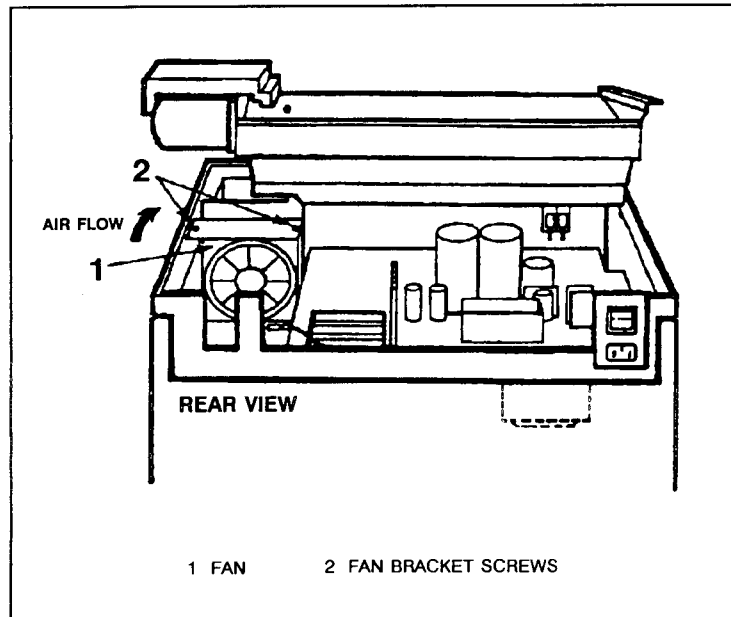

Figure 6-4. Upper Fan (Rear View of Printer)
- c. Remove the two screws from the fan bracket and remove the bracket (see Figure 6-4).